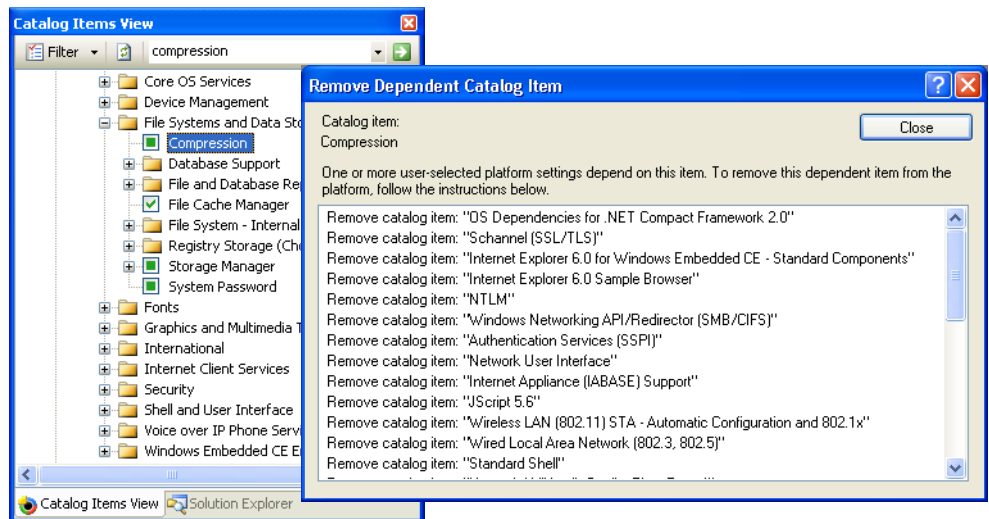

Figure 1-9 Reason for including a catalog item as a dependency
4. Right-click this catalog item and choose Reasons For Inclusion Of Item. The Remove Dependent Catalog Item dialog box displays the catalog items that caused Platform Builder to include the selected catalog item in the OS design, as illustrated in Figure 1-9.